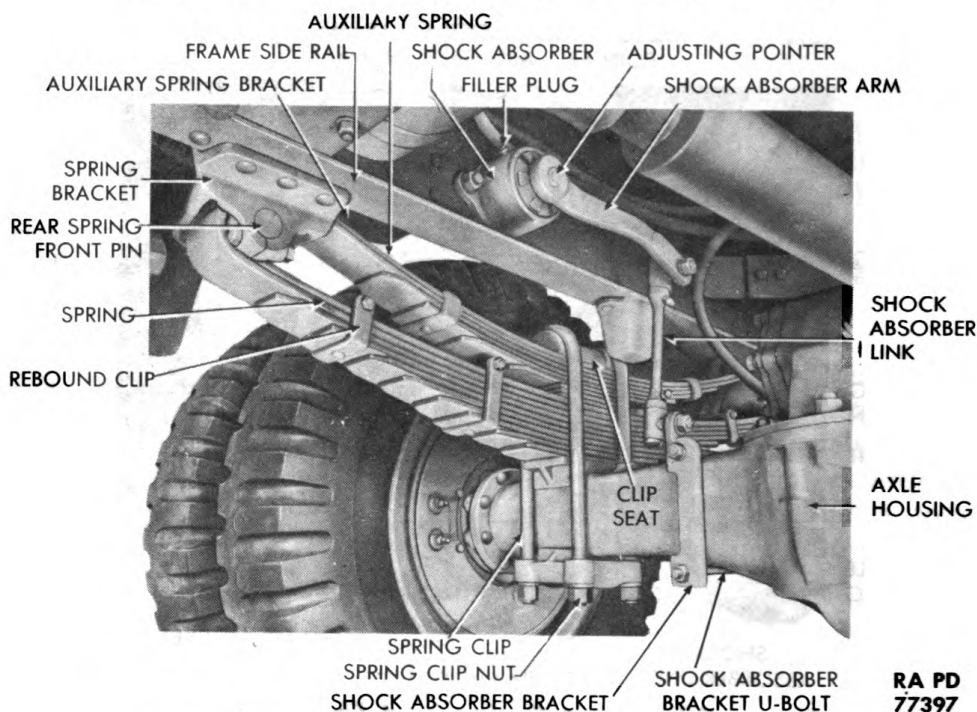

Figure 94 — Rear Spring and Shock Absorber
a. Description (fig. 94). Springs are attached to frame side rails and axle housing. They are assisted in carrying heavy loads by auxiliary springs mounted above them. The springs are solidly mounted to bracket at front. At rear, they are supported by special brackets attached to frame. When rear springs flatten out, auxiliary springs contact special auxiliary spring brackets at each end and help carry vehicle load.
b. Removal (fig. 94). Clean spring free of dirt and grease. Apply kerosene or penetrating oil to clip nuts and spring pin. Disconnect shock absorber link from bracket (par. 139 e). Remove four clip nuts and lock washers which secure clips to axle housing. Raise rear end of vehicle until spring clips loosen from axle housing. Remove clips and clip seats. Screw out lubrication fitting from front end of spring. Remove the two nuts and lock washers which secure draw keys to pin assembly. Drive keys out. Drive out spring pin from inner end. Use soft tool to prevent damage to pin. Remove spring.
c. Installation (fig. 94). Replace parts that show wear or that do not fit snugly. Position spring between supporting brackets. In-